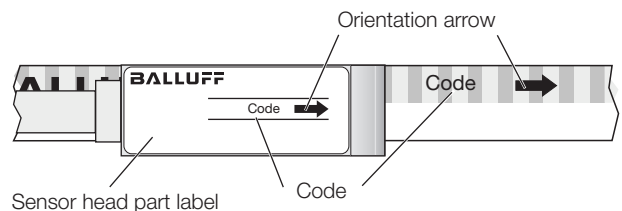
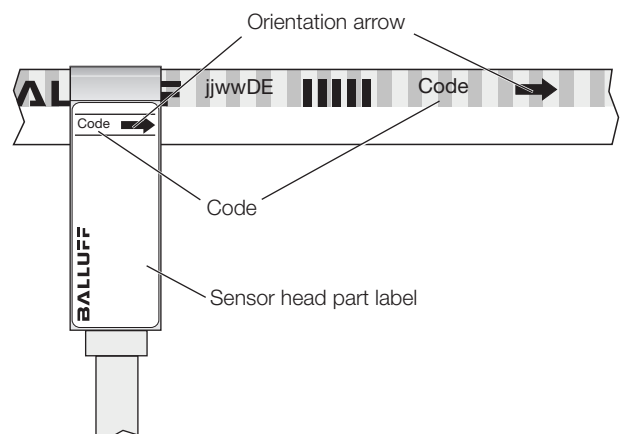

Fig. 4-1: Alignment of sensor head to magnetic tape – longitudinal variant
Fig. 4-2: Alignment of sensor head to magnetic tape – lateral variant
- The arrow printed on the tape must point in the same direction as the arrow on the part label of the sensor head (see Fig. 4-1 and Fig. 4-2 on page 12).